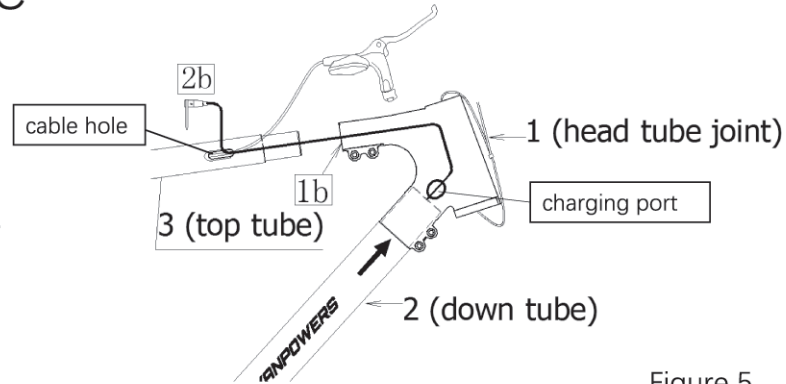

Figure 5
a. With the help of the cable tie on 2b, thread Part 2b out of the cable hole on Part 3, as shown in Figure 5. Now you can remove the cable tie. Be careful with the plug.